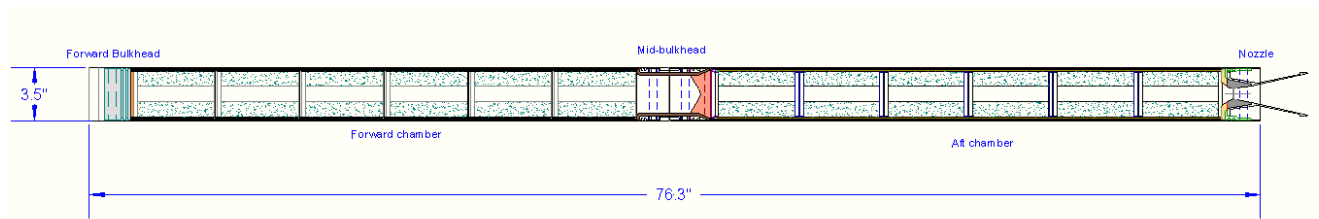

Figure 1 – Basic dimensions and components of the Mark III rocket motor assembly
The *ProtoSShot-M Mark III* motor is illustrated in Figure 1.
2. Insert through nozzle opening and secure in position near the top of the grain assembly (approximately 3” aft of the Delay Plug, ref. Figure 1).